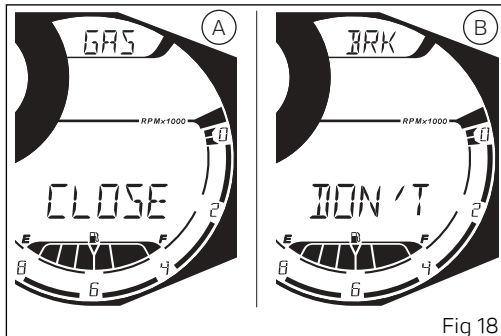

Fig 18
- if vehicle speed ≤ 5 Km/h (3 mph) and throttle control is "open", the instrument panel will display "CLOSE" and "GAS" (A, Fig 18). Only when throttle control is "closed" does the instrument panel confirm the selected riding mode and go back to standard page displaying.
- if vehicle speed > 5 Km/h (3 mph) and throttle control is "open", the instrument panel will display "CLOSE" and "GAS" (A, Fig 18). Only when throttle control is "closed" does the instrument panel confirm the selected riding mode and go back to standard page displaying.
- if vehicle speed is > 5 Km/h (3 mph) and throttle control is "closed" but brakes are in use, the instrument panel will display "DON'T" and "BRK" (B, Fig 18). Only when brakes are released does the instrument panel confirm the selected riding mode and go back to standard page displaying.
- if vehicle speed is > 5 Km/h (3 mph) and throttle control is "open" and brakes are in use, the instrument panel will display "CLOSE GAS" (A, Fig 18) and "DON'T BRK" (B, Fig 18) alternately. Only when throttle control is "closed" and brakes are released does the instrument panel confirm the selected riding mode and go back to standard page displaying.
If the above-described conditions for "validating" the change of Riding Mode are not true within 5 seconds from when "CLOSE GAS" (A, Fig 18) and/or "DON'T BRK" (B, Fig 18) warning is triggered, the selection procedure will be aborted and the instrument panel will go back to displaying the page active before Riding Mode selection started, and no settings will be changed.